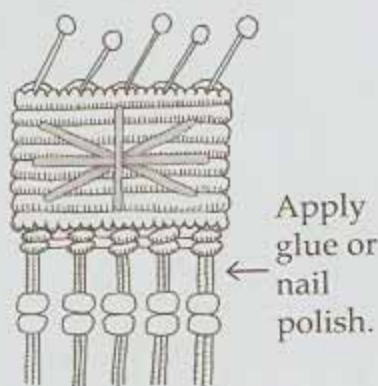
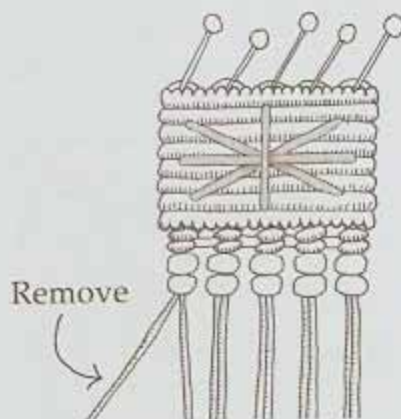

Fig. 11
Fig. 12
- Thread two or three 8° beads onto each 2-cord segment. Pull the beads down the cords a short distance, put a small amount of nail polish or glue on the area where the beads were, then push them back up over the glued area (see Figure 11). Cut one of the cords off directly under the bead with a utility blade*, so that only one cord protrudes from each bead (see Figure 12). Decreasing the number of cords from two to one allows you to add smaller beads if you choose.